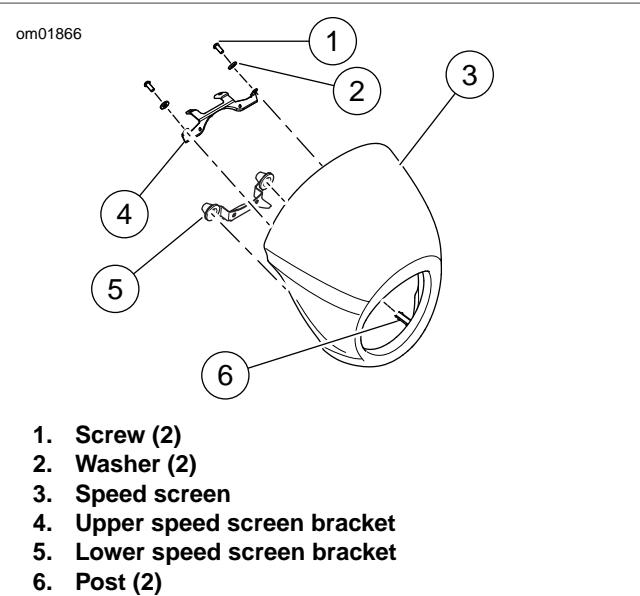
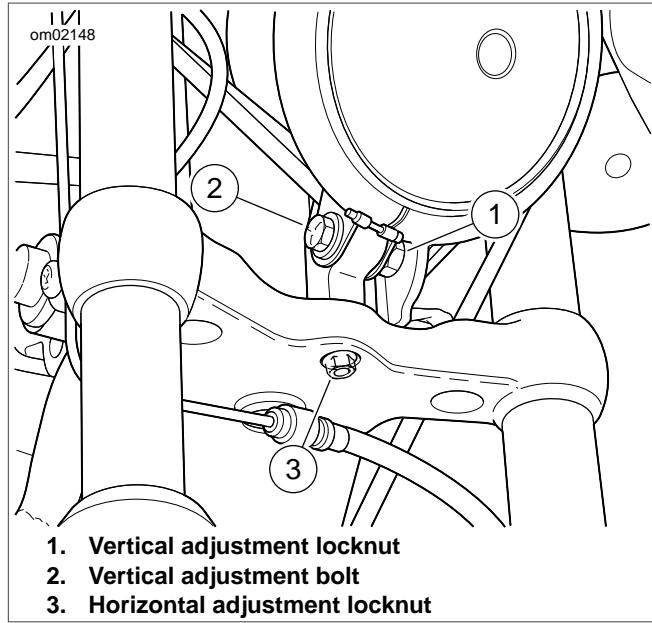
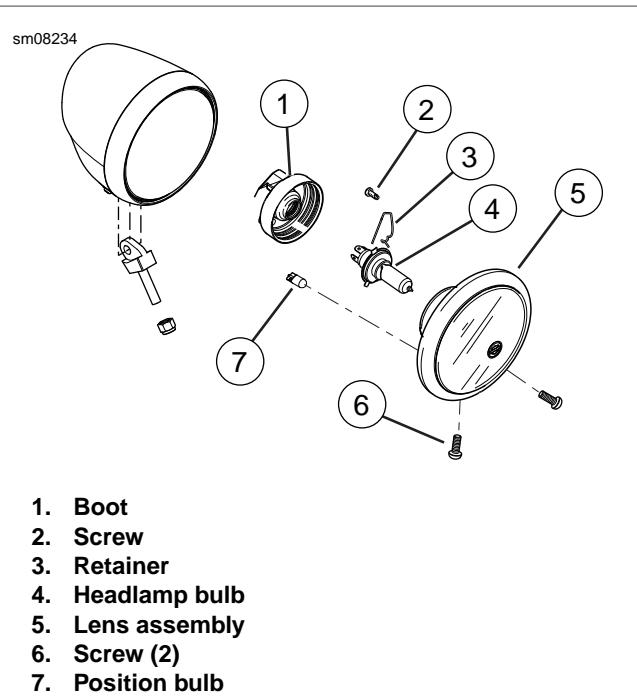

Figure 48. Headlamp Speed Screen
Figure 49. Headlamp Adjustment
Figure 50. Headlamp Bulb
1. See Figure 48. Remove speed screen screws (1) and washers (2).
2. Pull speed screen away from upper speed screen bracket (4).
3. Pull speed screen way from lower speed screen bracket (5) to remove posts (6) from grommets.
4. See Figure 49. Loosen horizontal adjustment locknut (1).
7. See Figure 48. Align posts of speed screen (3) with grommets.
8. Install speed screen onto lower speed screen bracket (5).
9. Align speed screen to upper speed screen bracket (4).
10. Install washers (2) and screws (1). Tighten to 2.3-3.3 Nm (21-29 **in-lbs**).
1. See Figure 49. Loosen locknut (1) for vertical adjustment bolt (2).
1. See Figure 48. Remove screws (1) and washers (2).
5. See Figure 50. Remove screws (6).
6. Pull lens assembly (5) from headlamp housing.
8. Loosen screw (2).
9. Remove retainer (3).
10. Remove headlamp bulb (4).
11. Remove position bulb (7).
13. Install retainer (3).
14. Tighten screw (2).
16. Attach lens assembly (5) to headlamp housing.
17. Install screws (6).
18. See Figure 48. Align posts of speed screen (3) with grommets.
19. Install speed screen onto lower speed screen bracket (5).
20. Align speed screen to upper speed screen bracket (4).
21. Install washers (2) and screws (1). Tighten to 2.3-3.3 Nm (21-29 **in-lbs**).